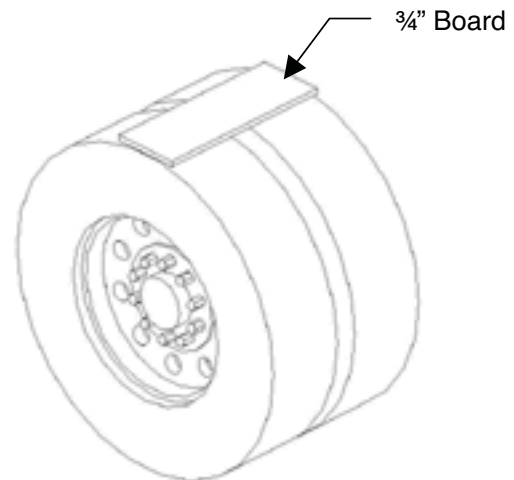

Figure 2
**TIP:** To establish the  $\frac{3}{4}$ " minimum gap needed in Step 2B for an air suspension system, place a  $\frac{3}{4}$ " board on top of tires after you have let out the air from your airbags, then place the fender on top of the board (see Figure 2). For a spring suspension system add  $\frac{3}{4}$ " to the measurement from step 2A.